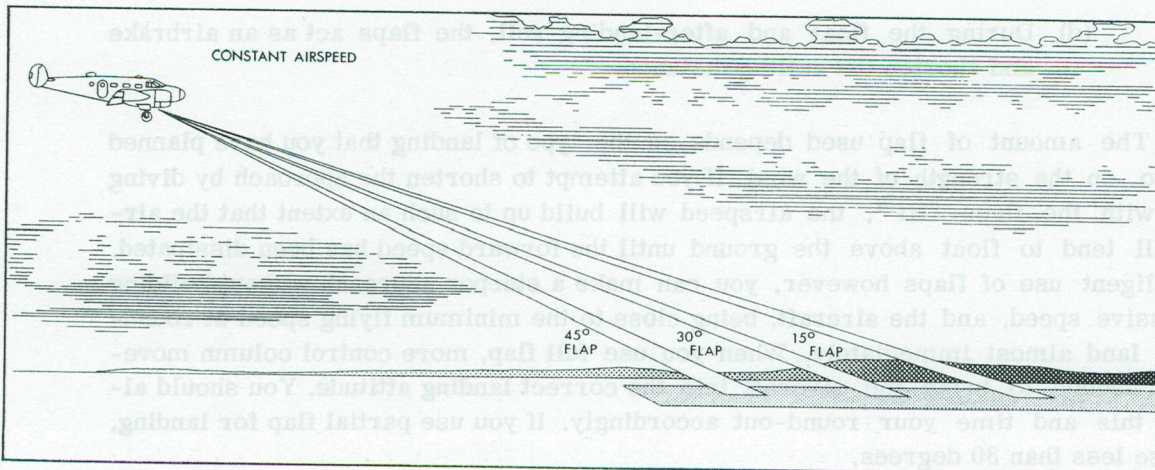

Figure 4. The Effect of Flaps on the Gliding Angle
(4) Do not lower flap on the final approach when the aircraft is close to the ground, since doing so will spoil your judgement of the approach path and, consequently, will spoil the landing. NEVER RETRACT THE FLAPS ON THE FINAL APPROACH. This is an EXTREMELY DANGEROUS PRACTICE when the aircraft is close to the ground, since flap retraction is rapid and the subsequent loss of lift during the last 10 degrees of flap retraction causes the aircraft to lose altitude. The airspeed is relatively low on the final approach and the aircraft could stall. The effect of flaps on the gliding angle is illustrated in Figure 4.